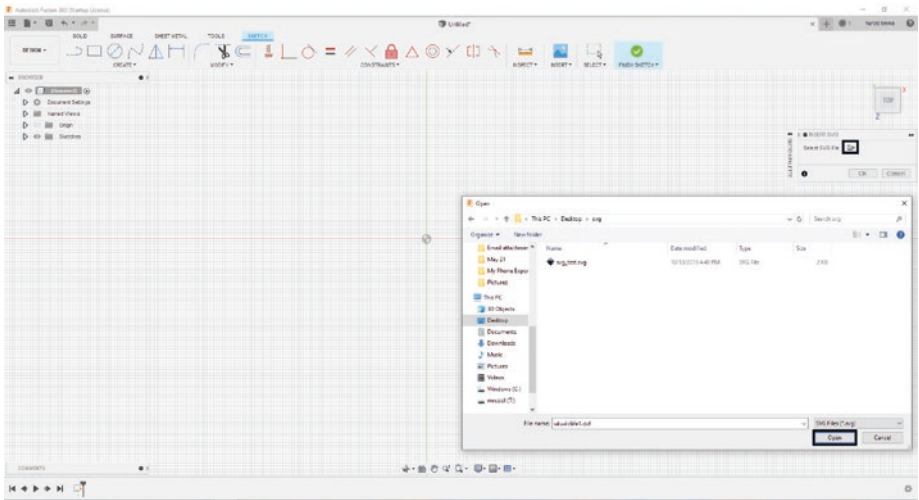

Figure 3-36. Select the SVG file from your computer
5. Select the SVG file. See Figure 3-36.